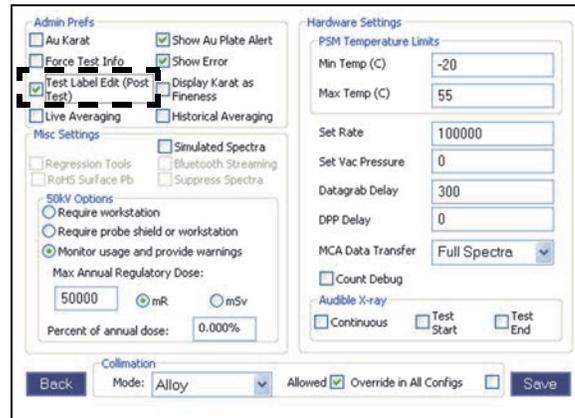

Figure 1-19 Post test label edit
- Under **Admin Prefs**, select the **Test Label Edit (Post Test)** check box (see Figure 1-19 on page 18).